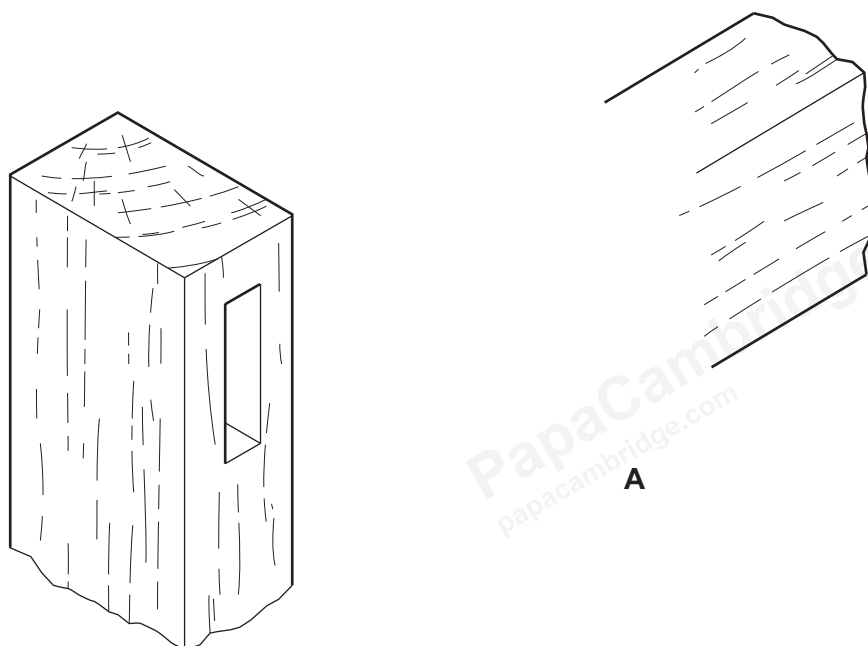

Figure 2.1
- 2 Figure 2.1 shows an incomplete drawing of a mortise and tenon joint. Complete Figure 2.1 to show the tenon on part **A**.